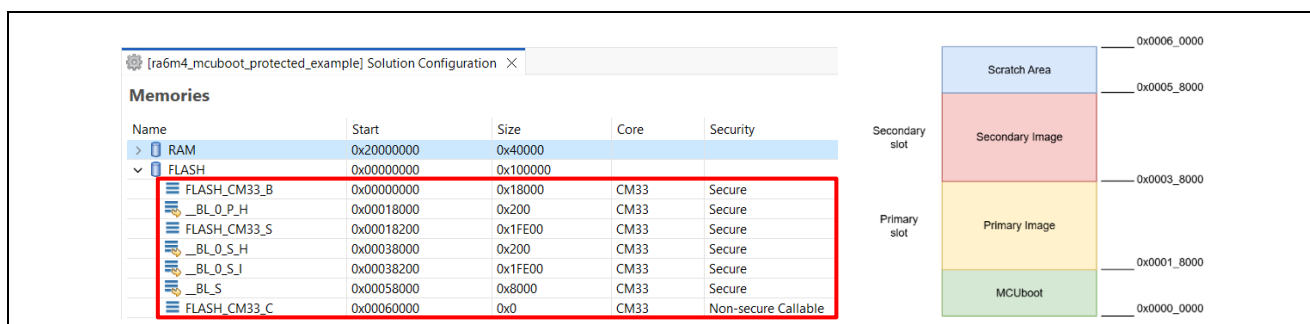

Figure 83. Define Flash Partitions for Bootloader and Application Images
- Add the memory layout for the bootloader and application. In this example, the memory partitions are defined according to the memory map shown in Figure 83. About the symbol conventions for memory partitioning, the user can refer to the guide in the *FSP User's Manual* under *RA Flexible Software Package Documentation > API Reference > Modules > Bootloader > MCUboot Port (rm_mcuboot_port)*.